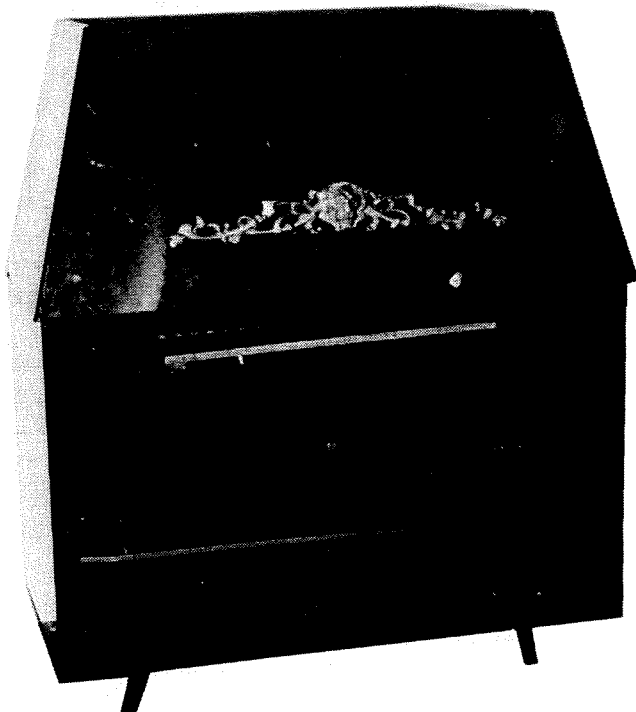

Fig. 49. The Belgian Efel uses wood or coal.
27. **Southport Stoves, Inc.** (importer), 248 Tolland St., East Hartford, CT 06108. The Belgian Efel (Fig. 49 and Table 5) delivers heat by radiation when hood is raised, and by convection when hood is in place. Barbecue grill is standard. Loading door is of double-layered sheet-steel with air space and is sealed with asbestos gasket. Baffle forces heat-flow to front of stove and around sides. Legs are 3 inches high and of porcelainized cast iron. The Efel can be vented into a fireplace. Manual draft controls are concealed behind front panel. Flue collar with built-in damper optional. Choice of six colors.